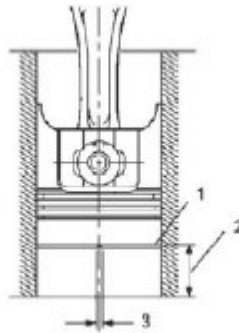

Figure 94.
9. To measure piston ring end gap, insert each compression piston ring (Figure 94, Item 1), one at a time, into the cylinder. Use a piston with the piston rings removed to slide the ring into the cylinder bore until it is approximately 1.18 in. (30 mm) (Figure 94, Item 2) from the bottom of the bore. Remove the piston. Measure the end gap (Figure 94, Item 3) of each piston ring. Record the measurements. See *Piston Ring Mechanical Specifications Chart*.